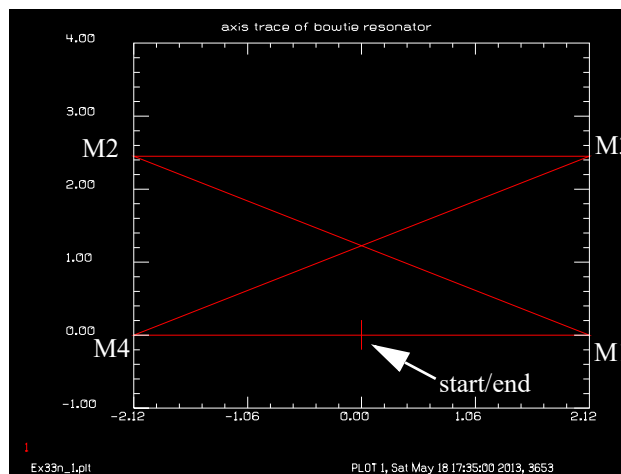

Fig. 1.29. Path of center ray for bowtie resonator. The calculation emanates from “start” and proceeds to M1, M2, M3, and M4 and finally returns to “end”.
- Example Ex33n illustrates a bowtie resonator using global positioning. See the configuration Fig. 1.29, converged mode Fig. 1.30, and correlation with the ideal mode Fig. 1.31.